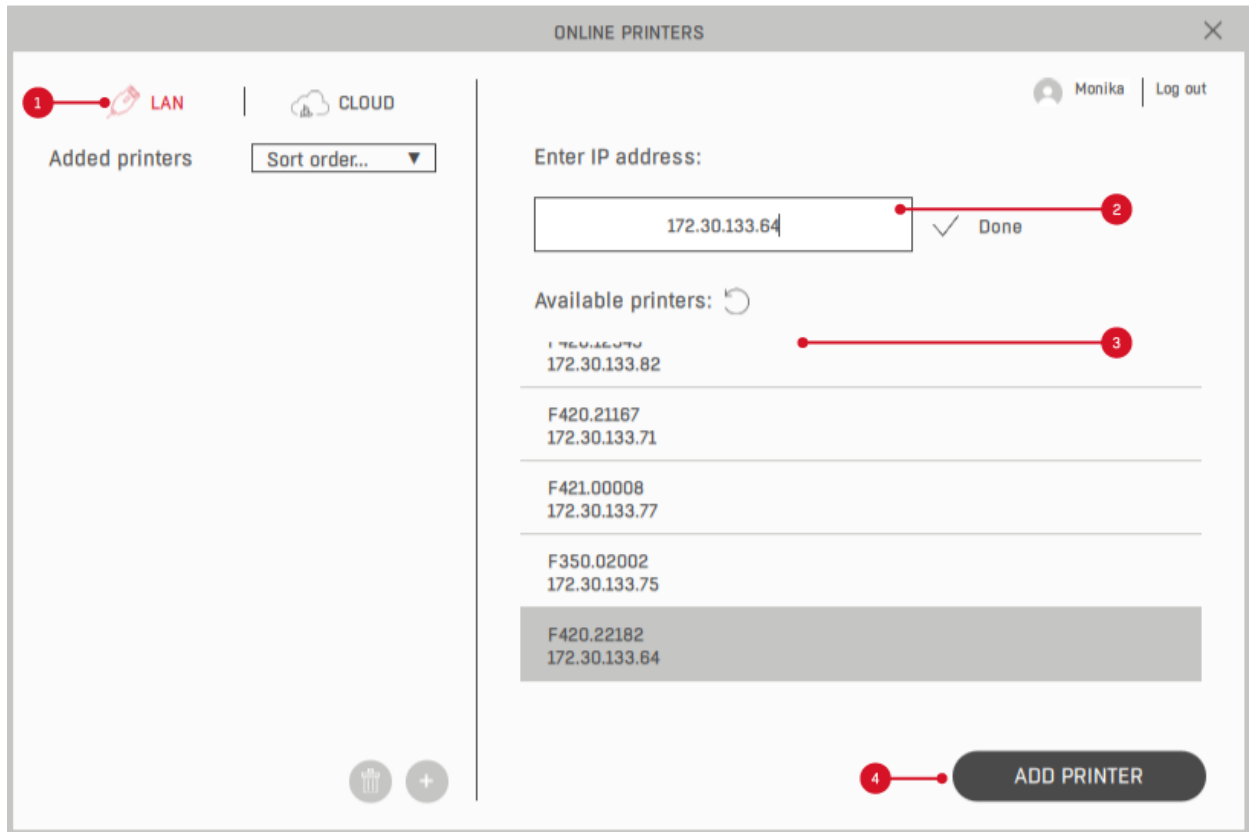

Fig. 27 Screen after selecting LAN - printer search
After selecting the LAN option the user is redirected to the screen associated with the local network (Fig. 27). The computer and printer should be connected to the same IP domain, so that you can search for printers and send files. At the first start, the list of added printers on the left is empty.
7. Add a new printer - moves to the screen shown in fig. 27.